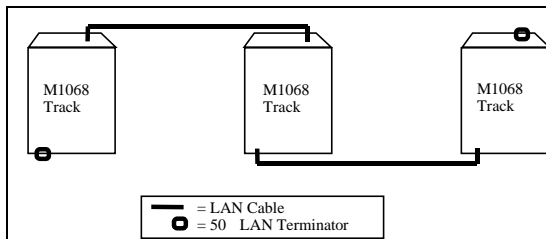

Figure 10. LAN Connections between Vehicles for both Multi-workstation and External LAN's.
C. External LAN Connections. The external LAN allows two or more M1068 tracks or other vehicles to be connected together to form a communications network. This LAN is connected to the vehicle at the connections marked as EXTERNAL LAN. Figure 10 shows three vehicles connected on a LAN with proper termination. Note that no LAN tees are used when connecting between vehicles. This is because the LAN tee is already connected to the UCU/CCU-2 inside the M1068.